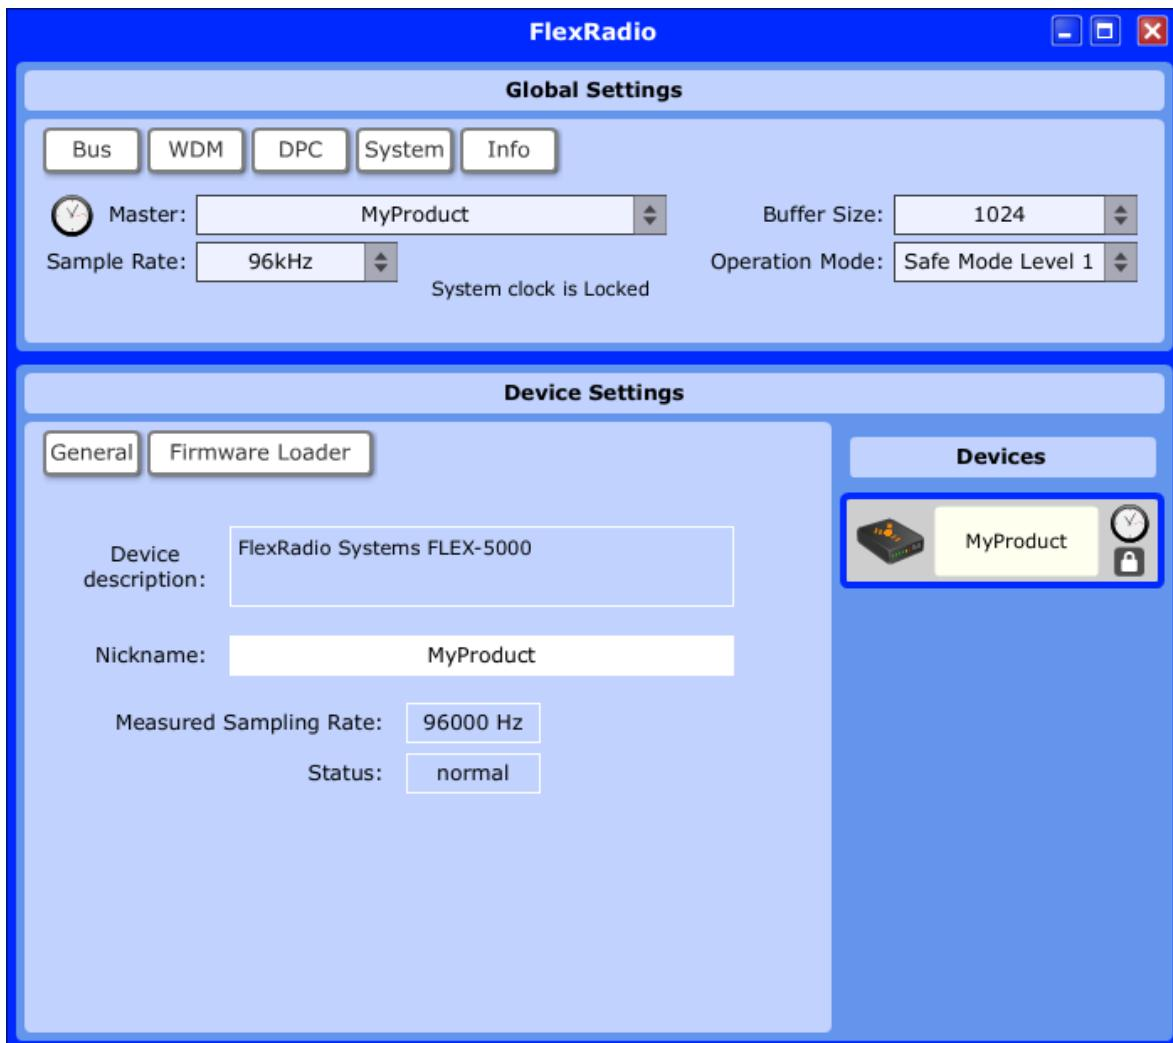

Figure 156: FlexRadio Driver Control Panel - Default View
The FlexRadio Driver comes with a Control Panel which enables you to verify and set various parameters. To open the Driver Control Panel make sure your FLEX-5000 is turned on and then double-click on the FlexRadio Driver's desktop icon you created during installation. Alternatively, click on Start → All Programs → FlexRadio Systems → FlexRadio. You will see the Control Panel as shown in Figure 156.
- ❑ **Master** displays the **Nickname** of your FlexRadio. The default **Nickname** is **MyProduct**, as shown in Figure 156 on page 179. (You can change this to any nickname you desire by clicking on the **Nickname** displayed in the lower **Device Settings** section).
The lower Device Settings section has two buttons which act as tabs: **General** and **Firmware Loader**. (see Figure 156 on page 179).
- ❑ **Measured Sample Rate** should equal the **Sample Rate** shown in the Bus Global Sections panel (see Figure 156).